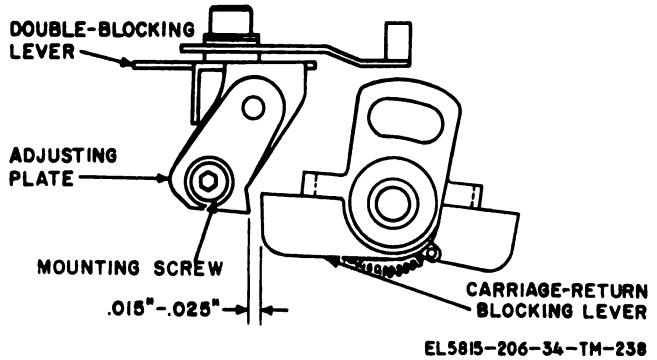

Figure 3-166. Carriage-return adjusting-plate adjustment (TT-4B/TG, TT-4C/TG, TT-335/TG, TT-537/G, TT-698A/TG, and TT-698B/TG ).
(fig. 3-166)
**b. Method of Checking.** Turn the motor on and press the CAR RET keylever, causing the carriage to move to the left-hand margin. Turn the motor off and trip the transfer-lever latch. Hold the carriage-return blocking lever (fig. 3-166) downward and turn the motor slowly by hand until the carriage-return clutch members move against each other (tooth